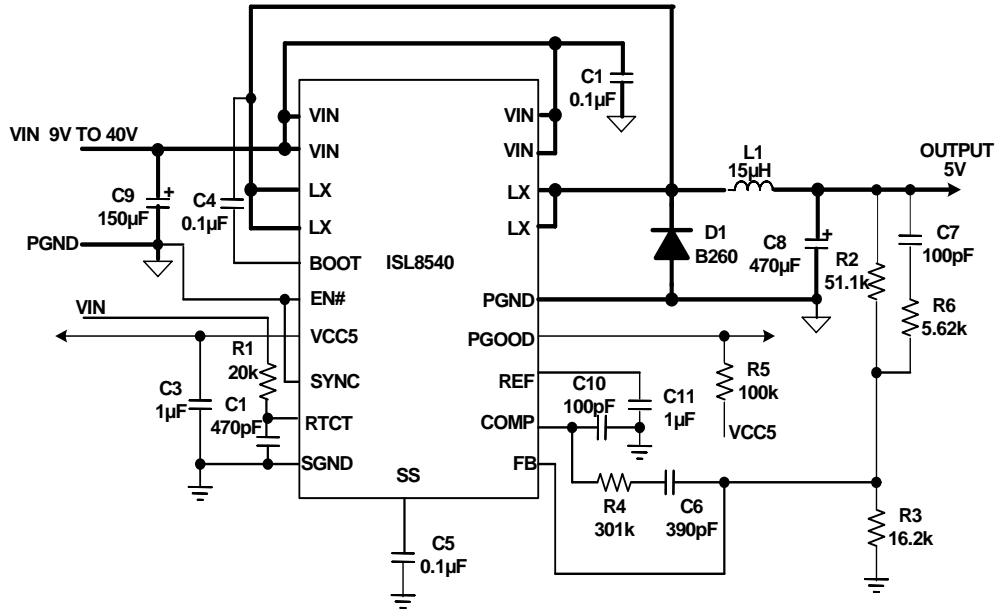

FIGURE 2. TYPICAL SCHEMATIC FOR ISL8540 (5V  $V_{OUT}$ )
**Typical Performance Curves** Circuit of Figure 2,  $V_{IN} = 24V$ ,  $EN\# = 0V$ ,  $FS = 500kHz$ ,  $V_{OUT} = 5V$ , unless otherwise noted. Typical values are at  $T_A = +25^\circ C$ .
**Typical Performance Curves** Circuit of Figure 2,  $V_{IN} = 24V$ ,  $EN\# = 0V$ ,  $FS = 500kHz$ ,  $V_{OUT} = 5V$ , unless otherwise noted.
**Typical Performance Curves** Circuit of Figure 2,  $V_{IN} = 24V$ ,  $EN\# = 0V$ ,  $FS = 500kHz$ ,  $V_{OUT} = 5V$ , unless otherwise noted. Typical values are at  $T_A = +25^\circ C$ . (Continued)
**Typical Performance Curves** Circuit of Figure 2,  $V_{IN} = 24V$ ,  $EN\# = 0V$ ,  $FS = 500KHz$ ,  $V_{OUT} = 5V$ , unless otherwise noted. Typical values are at  $T_A = +25^{\circ}C$ . (Continued)